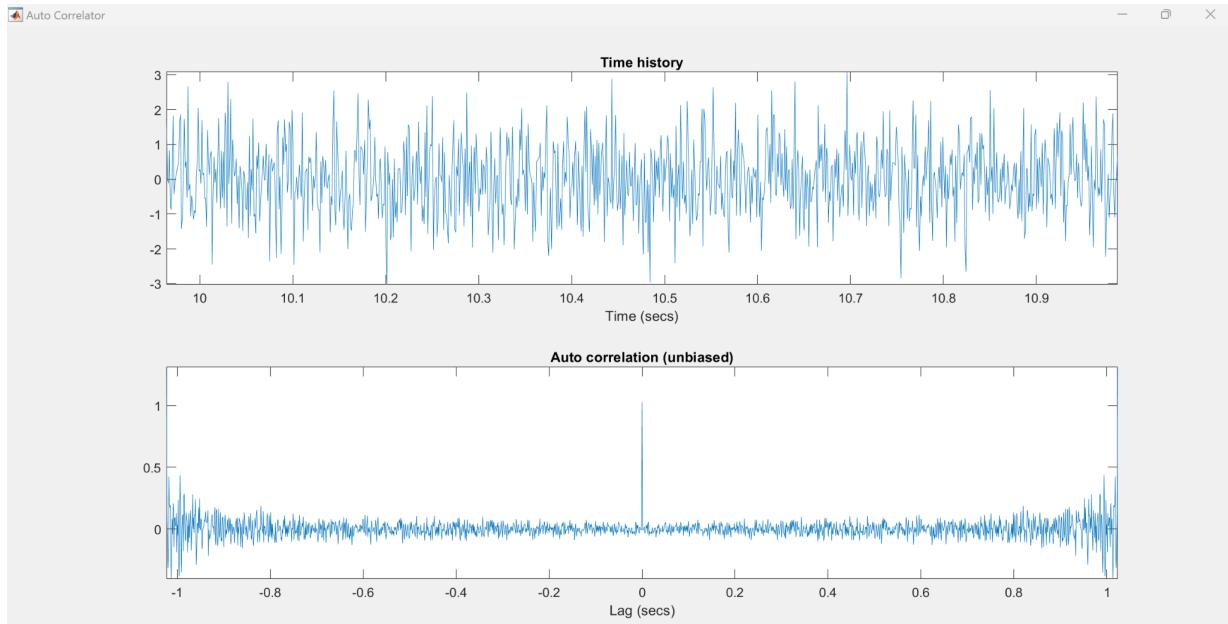

*Fig. 13: Thermal noise*
- 7) To better understand the thermal noise, we built connected these blocks as shown in Fig. 13. Our parameters were set up as listed below: